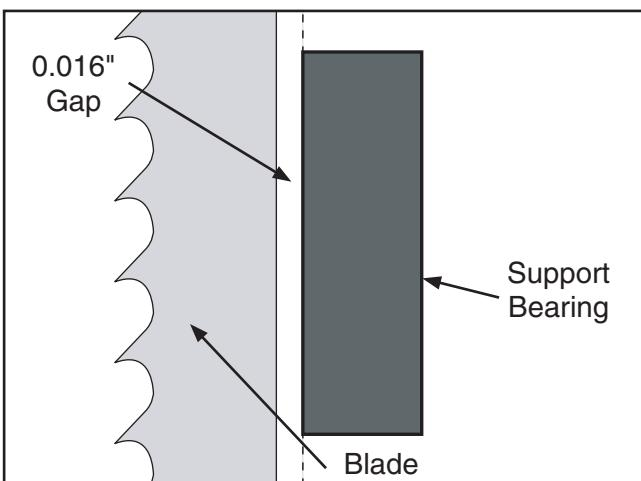
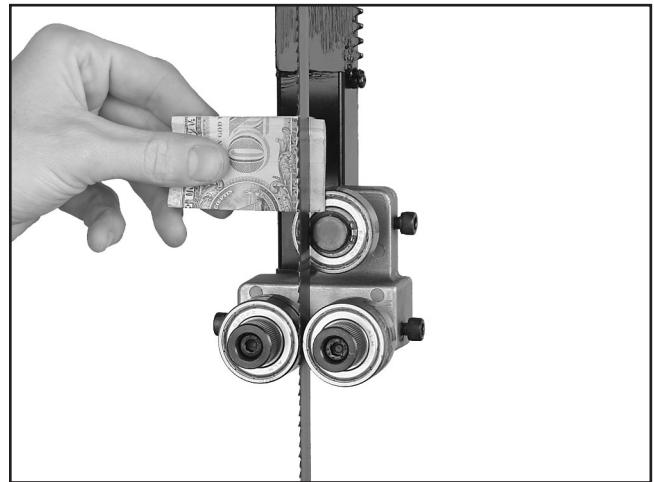

Figure 28. Blade aligned 0.016" away from the bearing edge.
Figure 29. Example of dollar bill folded twice to make an approximate 0.016" gauge.
7. Using a feeler gauge between the support bearing and the blade, position the bearing 0.016" away from the back of the blade, as illustrated in **Figure 28**.
Note: For a quick gauge, fold a crisp dollar bill in half twice (four thicknesses of a dollar bill is approximately 0.016") and place it between the support bearing and the blade as shown in **Figure 29**.
7. Using a feeler gauge, position the bearing 0.016" away from the back of the blade, as illustrated in **Figure 28**, or use a dollar bill, as shown in **Figure 29**.